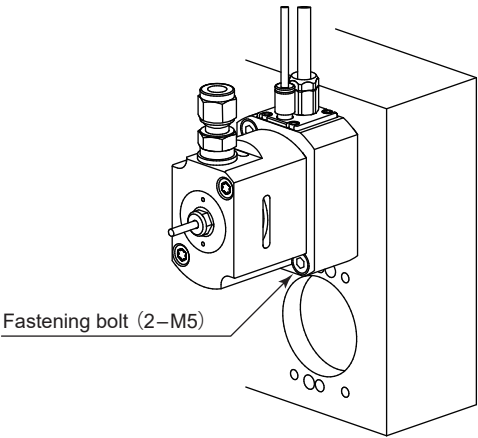

Fig. 26
- ① Insert the $\phi 42$ mm spindle body housing section into the machine tool holder with the $\phi 5$ positioning pin facing downward. (Installation on the upper station is recommended.)
- ② Secure the motor spindle through the mounting holes (2 locations) using the supplied fastening bolts (M5 $\times$ 30). (Fig. 26)